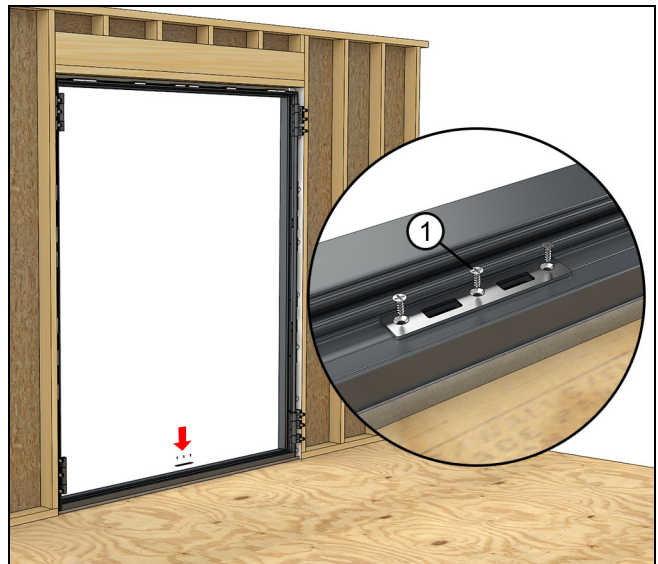

Figure 55
18. Install the sill strike. Fasten with two or three #8 x 1/2" screws. X and XO configurations will use two screws per strike. See Figure 55.